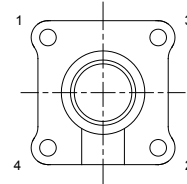

Fig. 8
- 9.2 The body bolts should be tightened until finger tight and then gradually fully tightened per the bolting sequence shown in figs. 8 or 9 to the torque shown in table 2. It is important that tightening be done gradually so as not to trap or pinch any part of the seats or seals and to maintain concentricity.
- 9.3 The bonnet bolts should be tightened until finger tight and then gradually fully tightened per the bolting sequence shown in fig. 8 to the torque shown in table 2. It is important that tightening be done gradually so as to ensure the bonnet stem locates evenly onto the body stem.